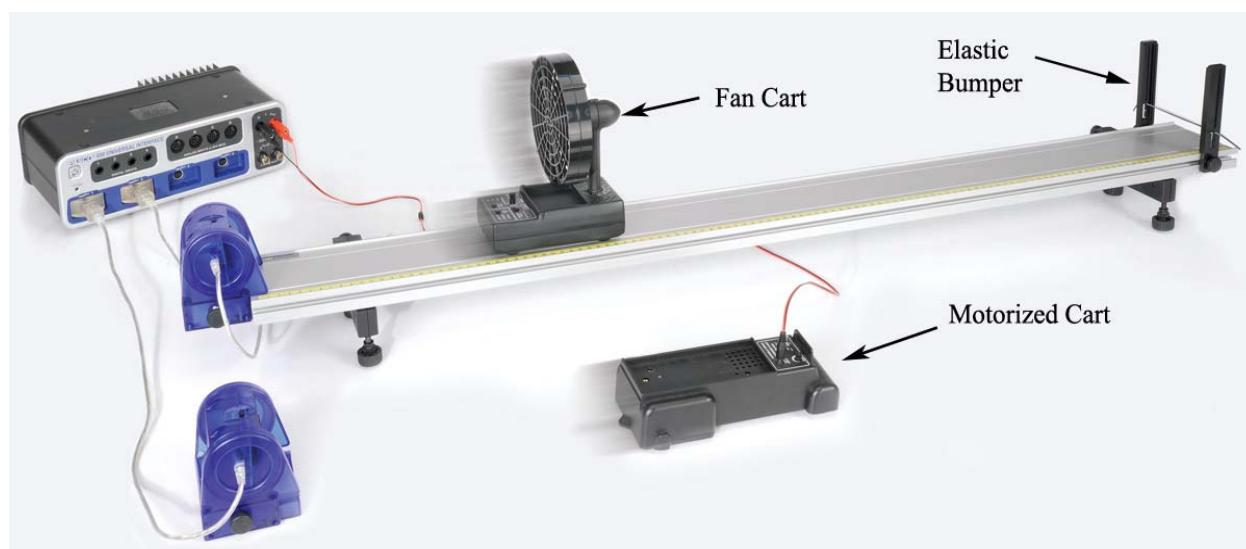

Figure 1: Which cart wins the race?
1. Set up the track as shown in Figure 1 with the Elastic Bumper and feet. Note that the Motion Sensor is on the end of the track with the zero point for the yellow rule.